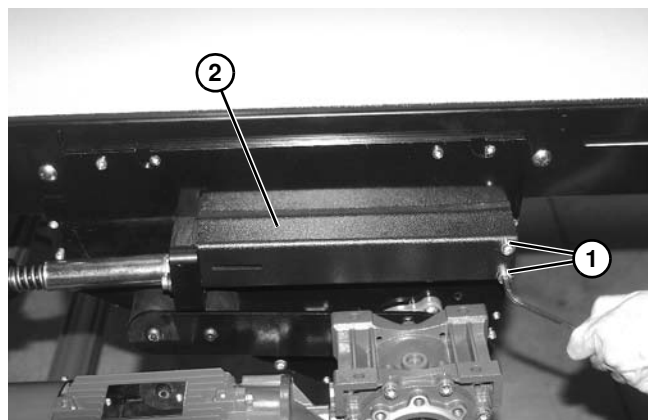

Figure 149
1. Remove two screws (**Figure 149, item 1**) and channel guard (**Figure 149, item 2**) from each side of center drive.